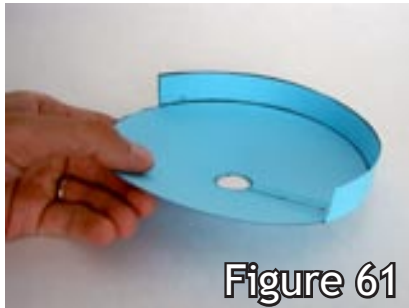

Figure 61
10. After attaching the “long wall,” the funnel should look like this. (fig. 61)